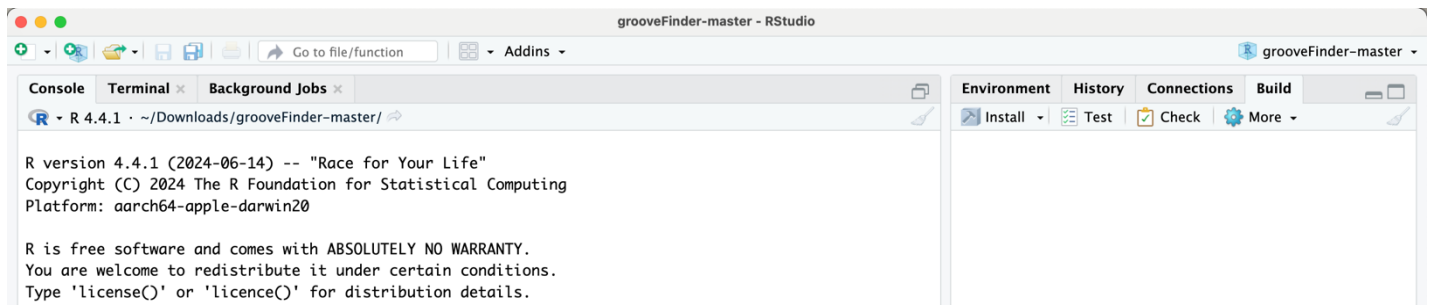

Figure 5. The grooveFinder R package is open in RStudio.
- Double-click on grooveFinder.Rproj. This will open grooveFinder in RStudio and “grooveFinder-master” is displayed in the upper right corner. (Figure 5)